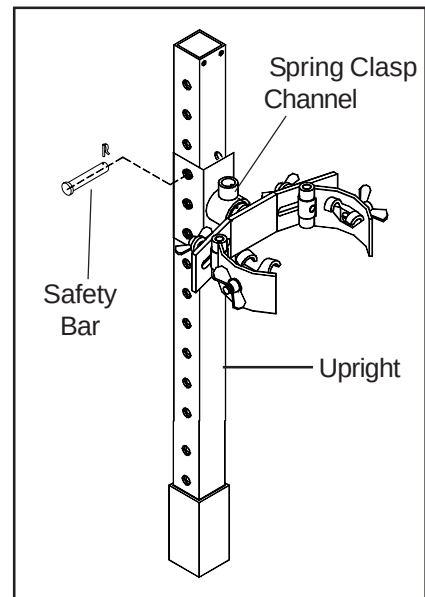

Figure 8
5. After spring is compressed, install safety bar into the hole on upright directly above strut spring channel (refer figure 8).